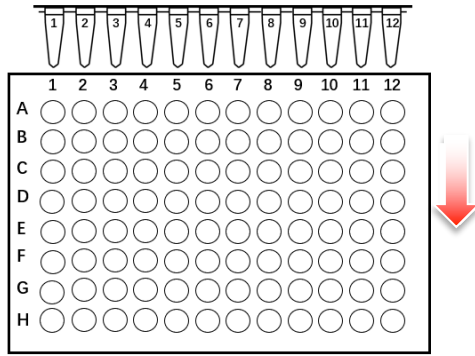

Figure 3. Dispense PHC1 01-12 Mix to 96-well plate
- 6) Use multichannel Pipette to aliquot 4.6 µl PHC1-1-12 to the same 96 well plate from step 4 (Figure 3), and change tips in between for each row dispensation. After the two dispensations, each well contains 9.2 µl in total. Figure 3 shows the arrangement for PCR plate and PCR tubes mixes.